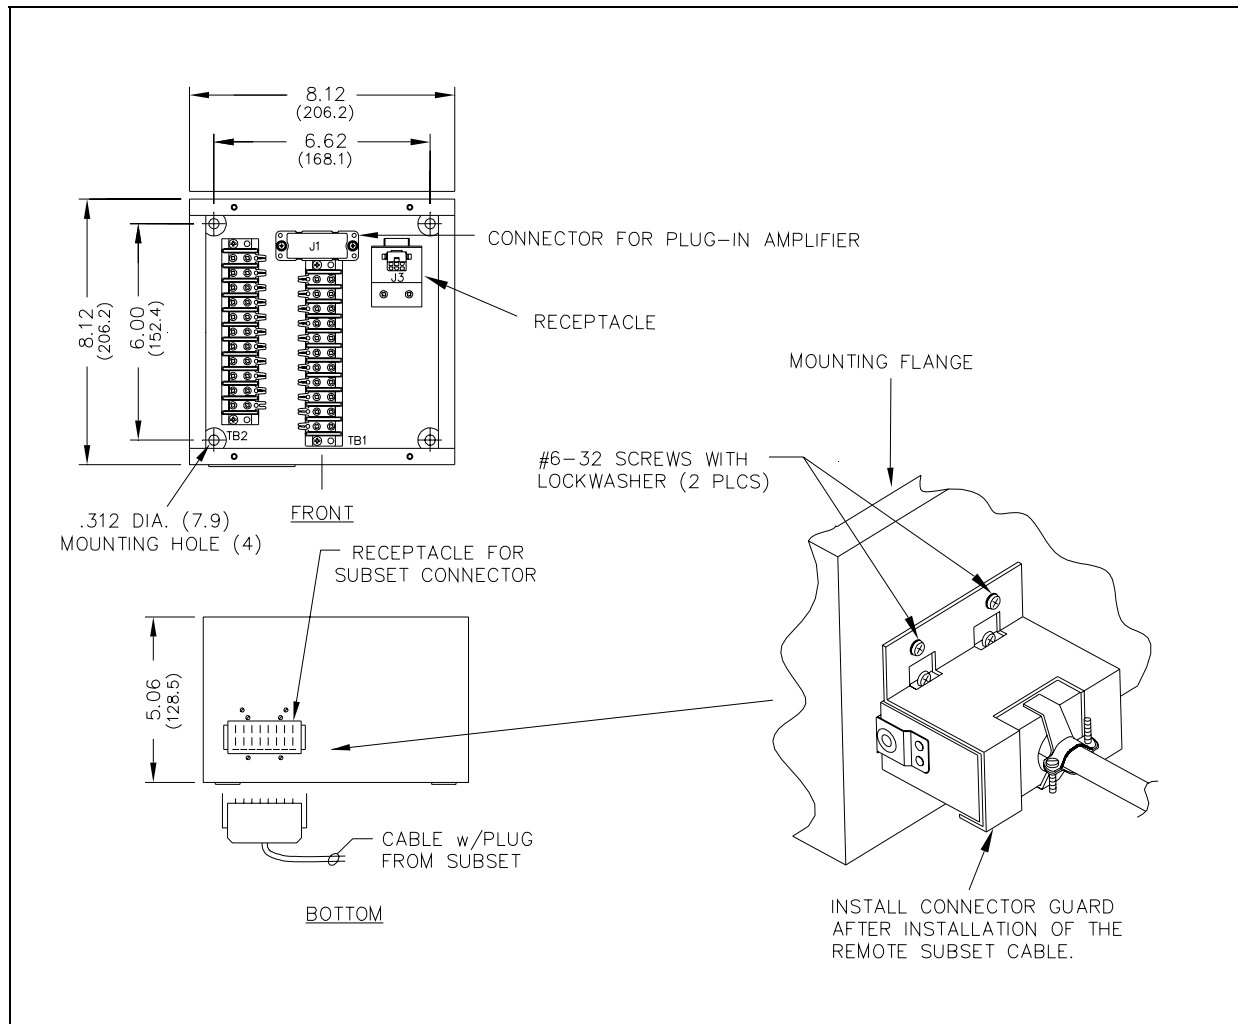

Figure 1. Model 7245-005 Outline Detail
2. Four 0.312-inch (7.92 mm) diameter mounting holes located in each corner of the amplifier enclosure have been provided for installing the enclosure. See Figure 1.
8. Plug the subset connector into the J2 receptacle located at the bottom of the enclosure. Secure the connector with the connector guard and screws provided. See Figure 1.